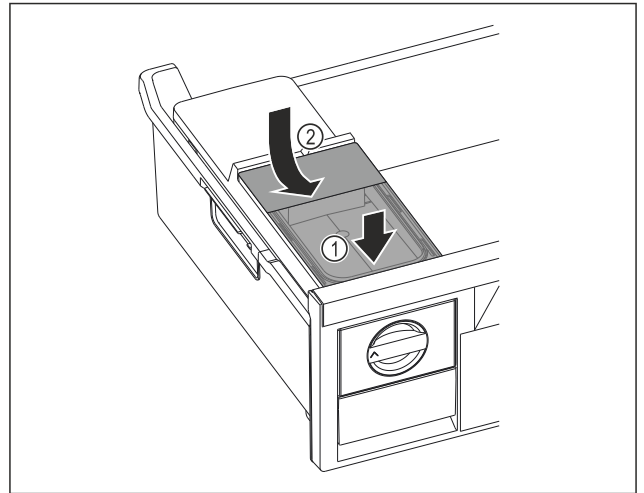

Fig. 145
- Position the water tank at the front. Fig. 145 (1)
- Lower the water tank at the rear. Fig. 145 (2)